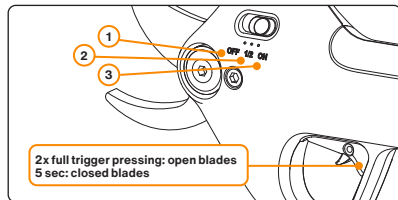

Figure 4: Different stages of the power switch and blade opening.
- After pressing the trigger, the returning position is set by the switch placement. See figure 4.